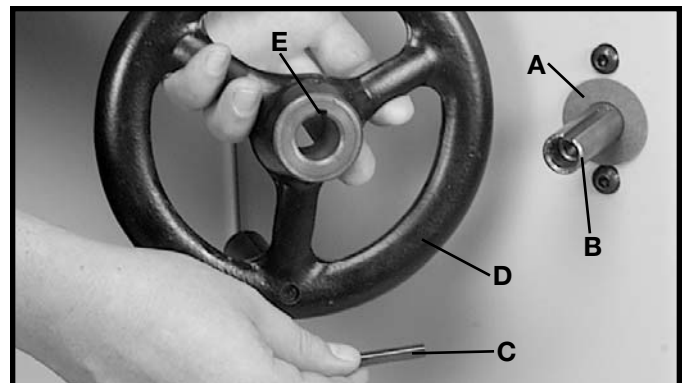

Fig. 6A
1. Install fiber washer (A) Fig. 6A, on the blade tilting mechanism shaft (B). Install key (C), into shaft keyway.
2. Place handwheel (D) on shaft (B) Fig. 6A. Make sure the groove (E), in the handwheel lines up with the key (C).